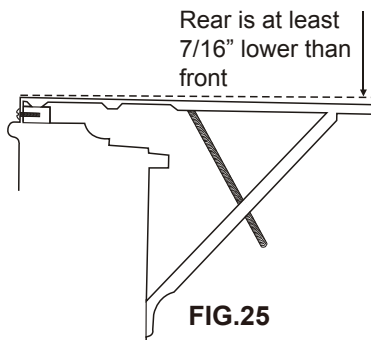

FIG.25
- A projection below the base of the air conditioner will require the rear of the platform to be 7/16" lower than the front to create the 3/16" slant from front to rear (FIG.25) .